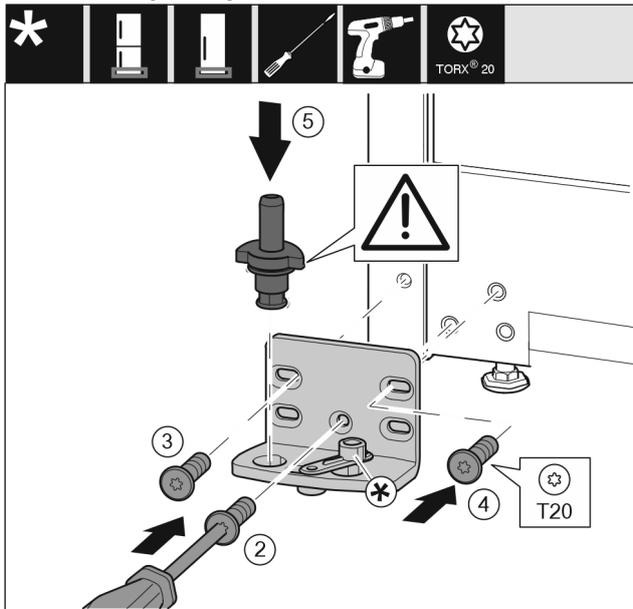

Fig. 15
- Place the bearing bracket on the other side and screw it on with a T20 screwdriver. Start with screw 2 at the bottom in the middle. Fig. 15 (2)
- Screw in screws 3 and 4 tightly. Fig. 15 (3,4)
- Insert the bearing pin completely. Make sure that the latching lug is pointing to the rear. Fig. 15 (5)